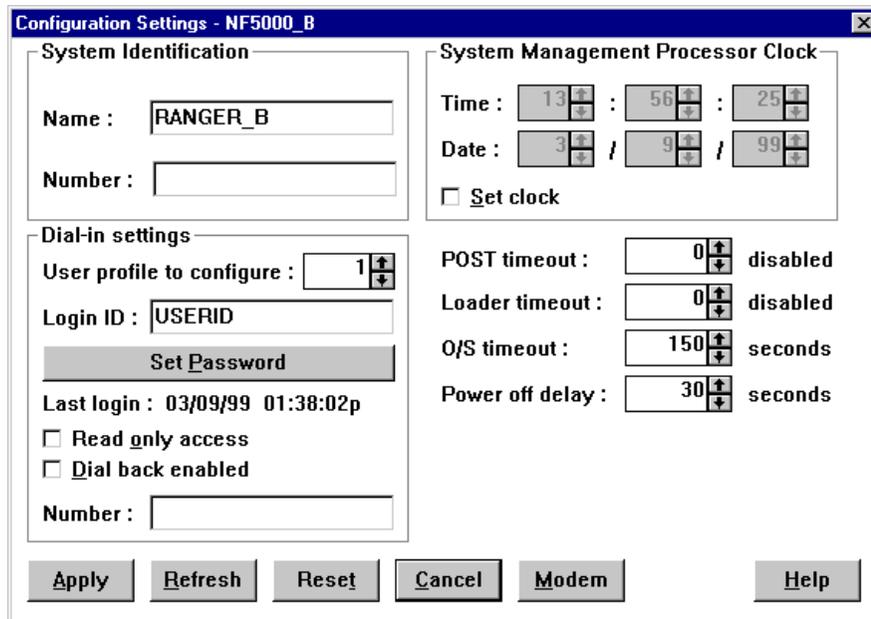

Figure 205. Configuration Settings
3. Double-click **Configuration Settings**. Figure 205 appears: